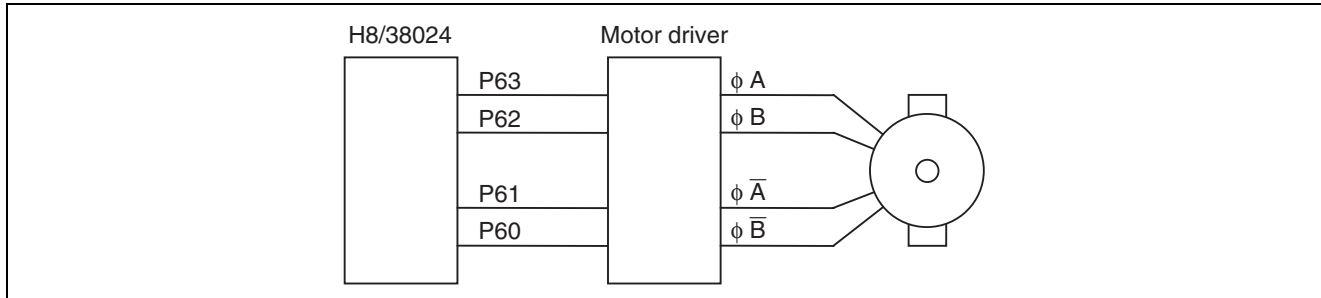

Figure 1 Connections for Controlling a Two-Phase Stepper Motor
- Figure 1 shows the connection diagram for controlling a two-phase stepper motor.